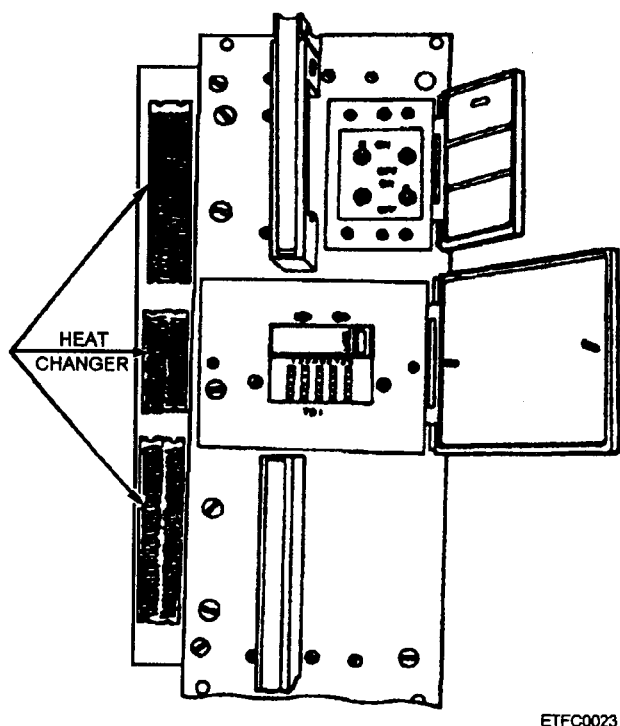

Figure 2-36.—Example of a heat exchanger used by a large computer mounted on the side of a module.
- Heat exchangers mounted on a module, the frame, or the cabinet and air filters for blower units use air-to-air cooling. (Figure 2-36 is an example of a heat exchanger used on a large computer. Notice it is mounted on the side of a module.)